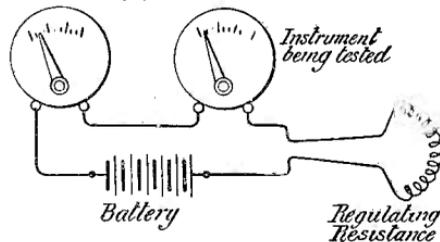

FIG. 35.
each, and their finishing ends are to be joined respectively to the starting ends of the coils on the other bobbin, the remaining ends are to be both connected to the middle terminal. If you have any difficulty with these connections, or may have wound a coil in the wrong direction, they may be worked out experimentally with the aid of a battery, trying one coil at a time (see Chap. VI fig. 35). A glass
**AMPEREMETERS**—The method of connection is shown in fig. 35, and the instructions given for voltmeters apply to amperemeters also, but whereas to calibrate a voltmeter you need a very small current and a large number of cells, to calibrate an amperemeter you need only one or two cells, but they must be capable of giving a large current, as you must have the amperes required by the highest reading you are going to mark on the scale. The